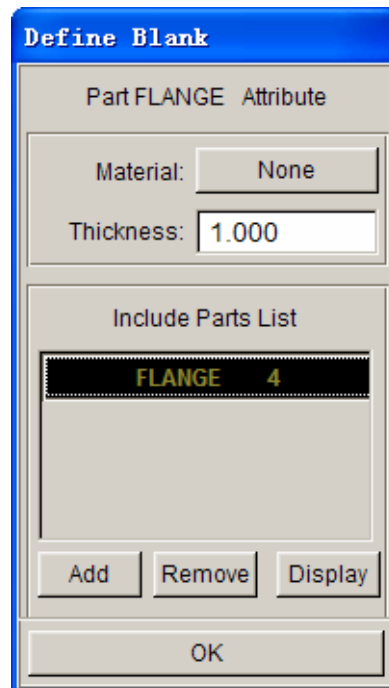

Figure 1.22: Define Blank dialog box
- 2) Click OK button to return to Define Blank dialogue box. Selected target part is added to the Include Part List as shown figure 1.22..